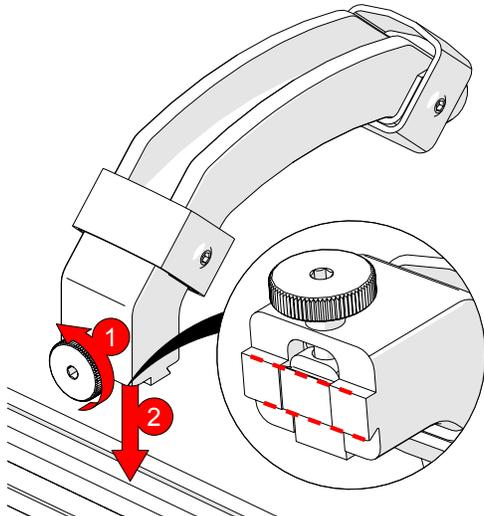

Fig. 16 - Attach handle to frame bar
1. Loosen the handle's knob and mount it to a frame bar (Fig. 16).